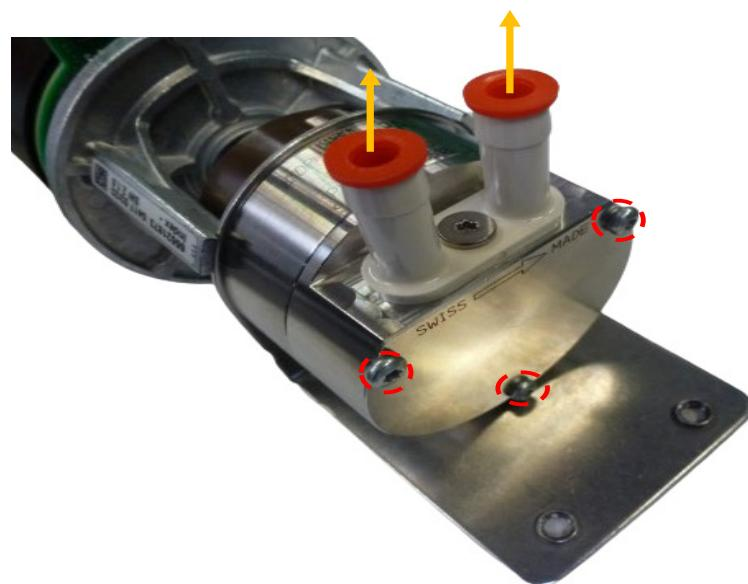

Fig. 2-4 Assembly group gear pump FPA/EP
5. Join gear pump and motor (new 3 screws, see Fig. 2-4).